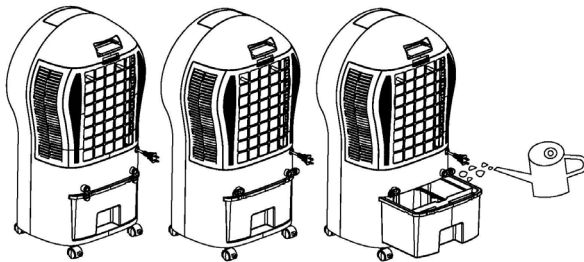

fig. 1
9. Water filling: make sure the machine is unplugged. Open water tank and fill water (fig.1). Make sure not to exceed the highest water level or fall below the lowest water level (fig.2). Use clean tap water.
11. Remote control: open the battery cover of the remote control, and insert a 3V CR2032 battery (fig.1). 2. Please aim at the receiver when using the remote control.